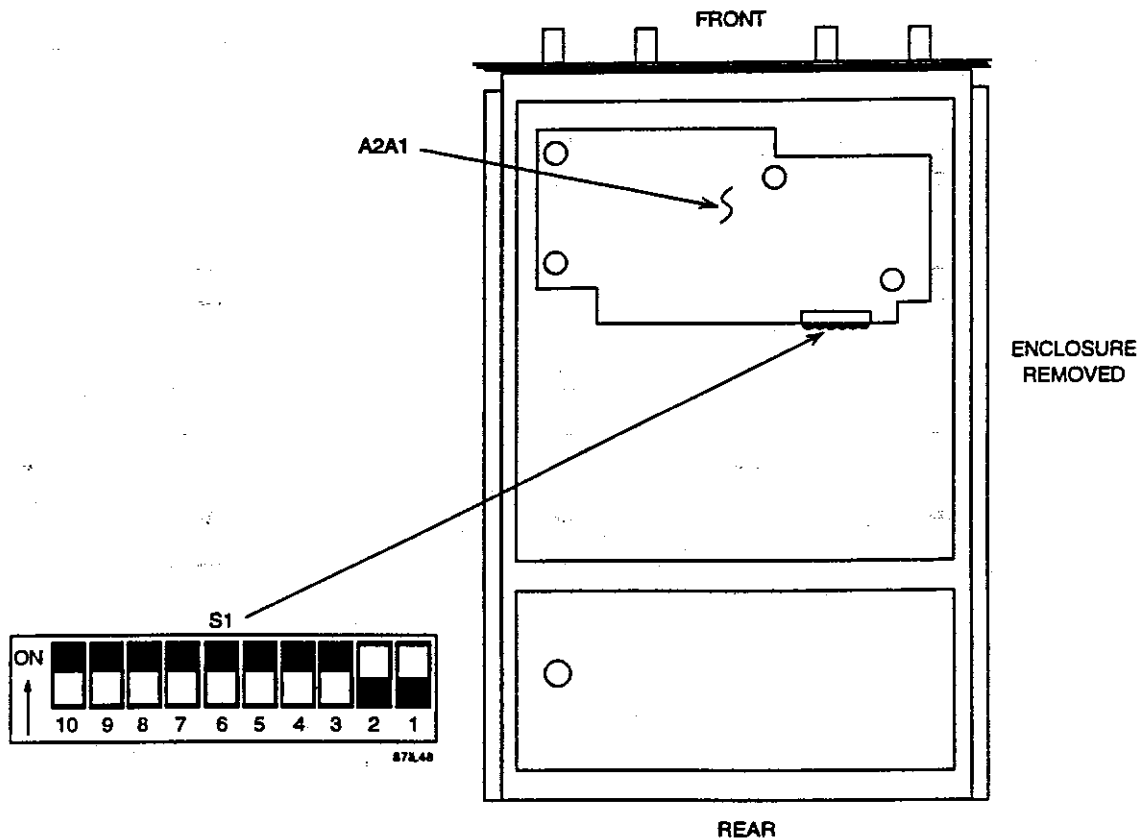

Figure D-3. Location of DSO1 DIP Switch S1 in the WJ-8710 and WJ-8710A
The DSO1 Digital Signal Output option processes and outputs signals in accordance with the settings of DIP switch S1 located on the Digital Signal Output PC Assembly (A2A1). See Figure D-3, D-4 and D-5. The switch must be set in accordance with Table D-2.
- g. Place the receiver on the bench, bottom side up, and locate S1 on the A2A1 assembly (refer to **Figure D-3**).